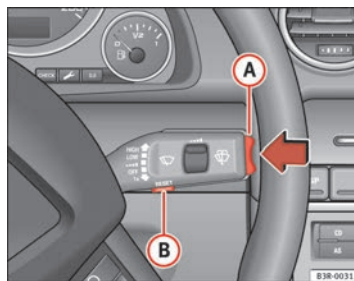

Fig. 60 Windscreen wiper lever: Onboard computer controls
Press RESET button **(B)** ⇒ page 86, fig. 60 to switch back and forward between onboard computer functions 1 and 2.
The driving time warning can be switched off by briefly pressing the function selector switch or the **[Reset]** button ⇒ fig. 60.
- Press the top or bottom of the function selector switch **(A)** ⇒ fig. 60. This displays the functions of the onboard computer in sequence.